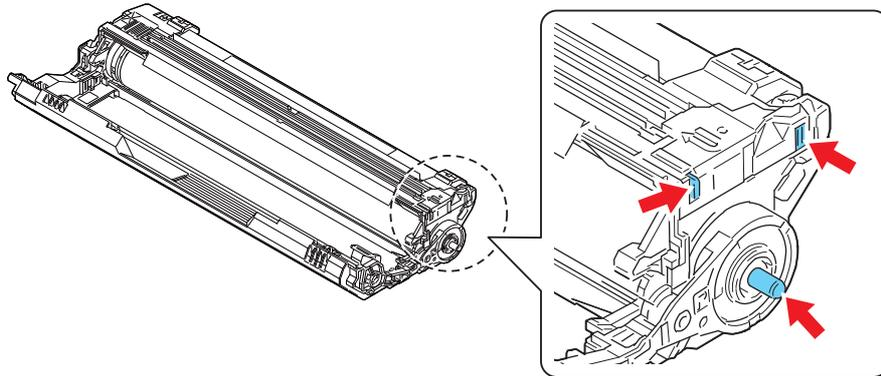

Fig. 2-12
- Clean the electrode of each drum unit. (Refer to Fig. 2-12 \(P2-78\).)